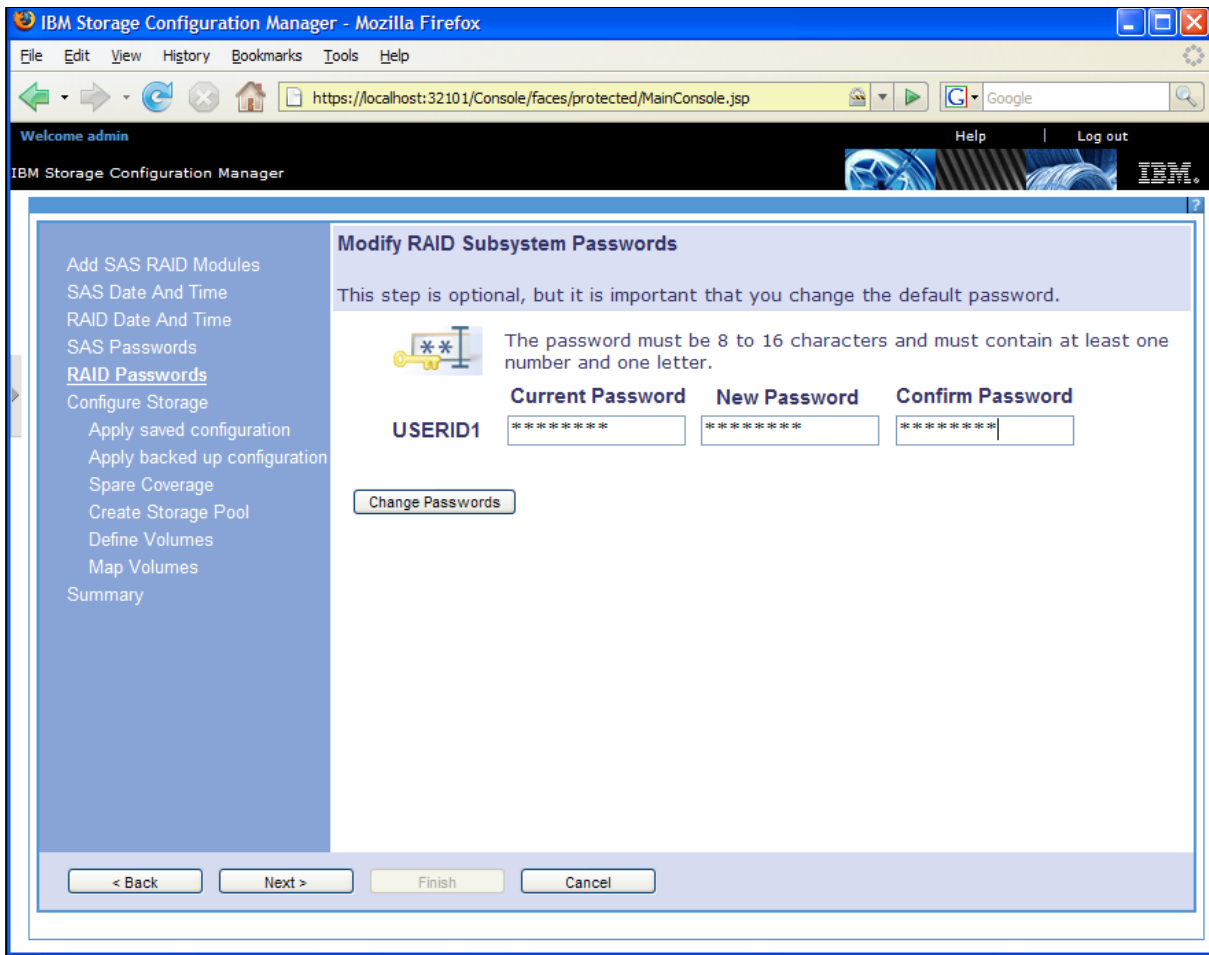

Figure 2-37 Modifying RAID Subsystem Passwords
6. (Optional) The “Modify RAID Subsystem Passwords” panel (Figure 2-37), allows you to change the USERID account password of the RAID Subsystem. The password change will apply to both RAID subsystems. Click **Change Password** and **Next**.